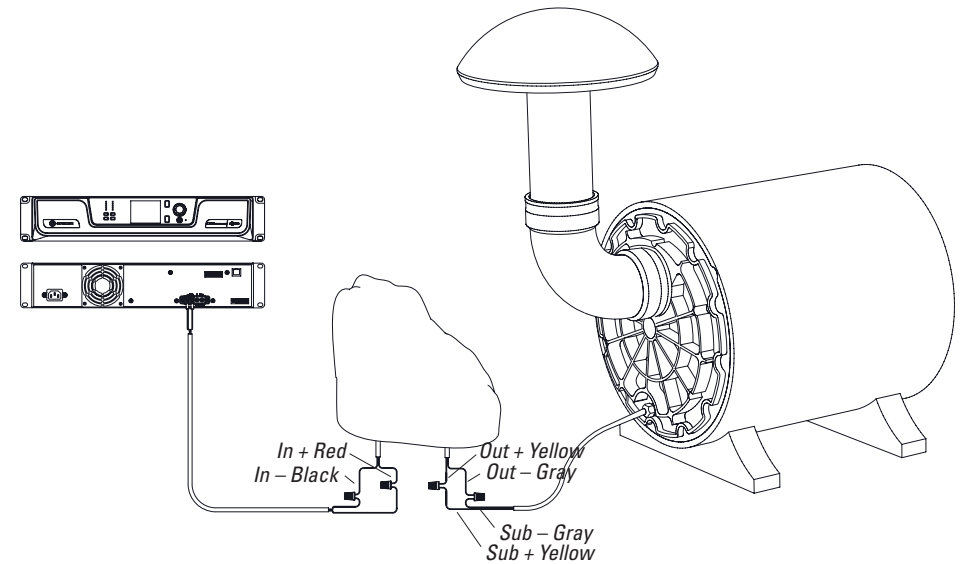

Figure 32
2. Position the rock style transformer (Figure 32) on the ground close enough to the subwoofer for pigtail to reach.